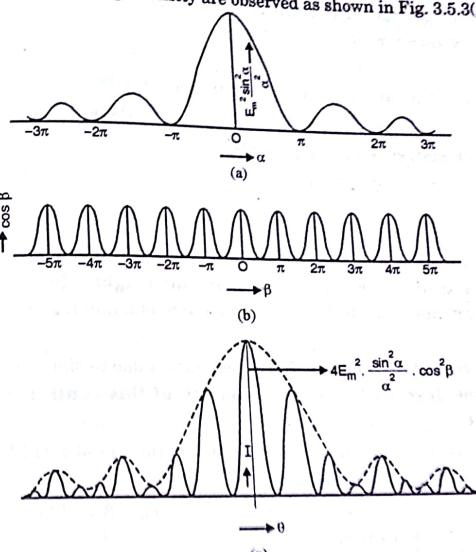

Fig. 3.5.3
- On either side of this principal maximum alternate minima and secondary maxima of diminishing intensity are observed as shown in Fig. 3.5.3(a).
- The variation of the diffraction term  $E_m^2 \frac{\sin^2 \alpha}{\alpha^2}$  with  $\alpha$  is shown in Fig. 3.5.3(a). The variation of interference term  $\cos^2 \beta$  with  $\beta$  shown in Fig. 3.5.3(b). The resultant intensity distribution due to double slit is shown in Fig. 3.5.3(c).